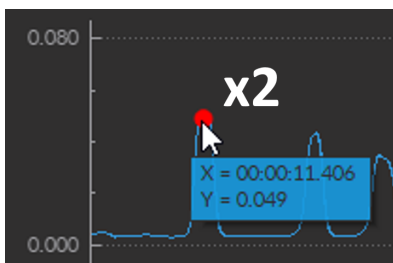

Figure 10.45: Instantaneous Value
- **Instantaneous point** - *Double clicking* (Fig. 10.45) on any element of the trace within a graph adds a red dot over that section. Mousing over the dot with the cursor displays the X- and Y-coordinates of the data point. These data points are strictly a visualization tool and their coordinates will not be saved with the rest of the data. To remove a created dot, double-click on it a second time.